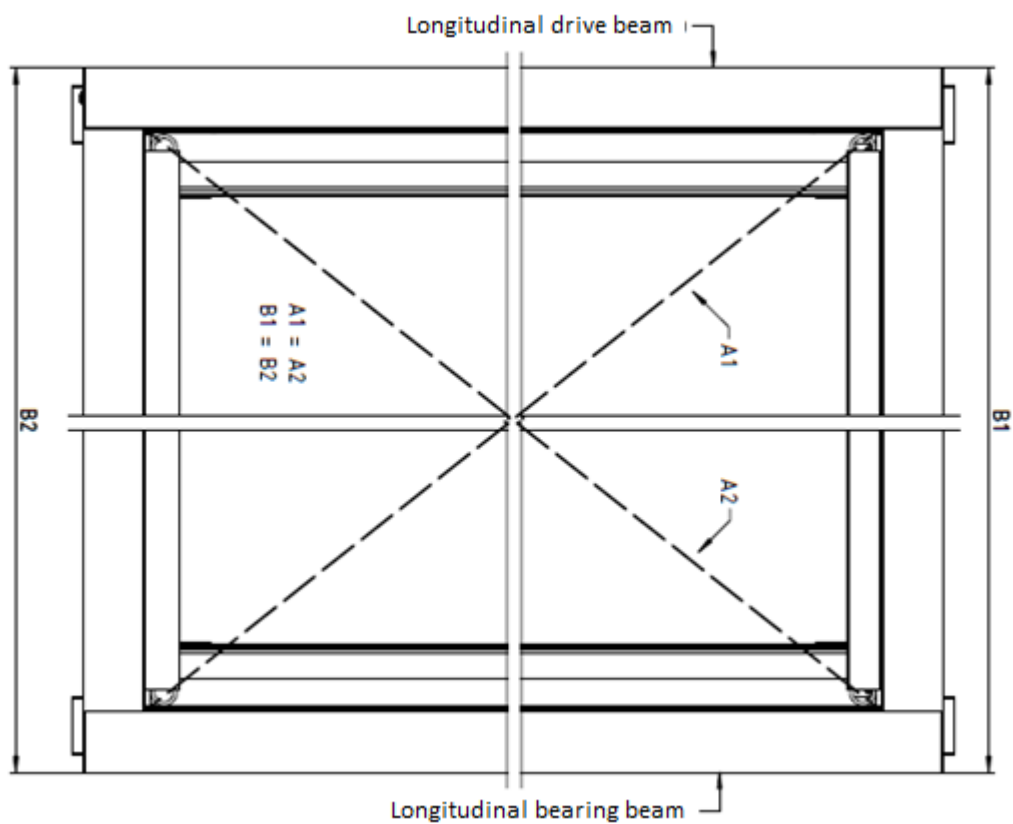

Fig. 11
8. Support the other side of the crossbeams until the second door has been fitted. If the transverse beams cannot be slid over freely, loosen the bolts in the longitudinal beam (10).
9. On the cross-beams (11 and 12), slide on the other side the previously screwed door (see point 2) consisting of the left-hand (6) and right-hand (2) posts and the longitudinal bearing beam (8) as shown in Fig. 10. After sliding, screw the whole assembly together using ISO 4762 M8x170 screws (13). After assembling the structure, fit the silicone sealed drain sleeve (16) into the gutter drain holes (detail - fig. 11). It is possible to plug one selected drain hole in each gutter with the drain plugs provided (fix to silicone).
10. Once the entire structure is assembled, diagonals, distances and the correct levelling (horizontal and vertical) must be measured - Figure 11.